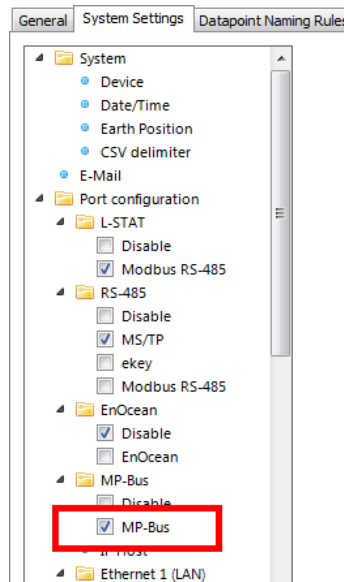

Figure 182: Enabling MP-Bus in the Project Settings Dialog.
2. In the **System Settings** tab enable the MP-Bus protocol on the MP-Bus port, as shown in Figure 182. When using an LMPBUS-804 activate the MP-Bus protocol on the USB port.